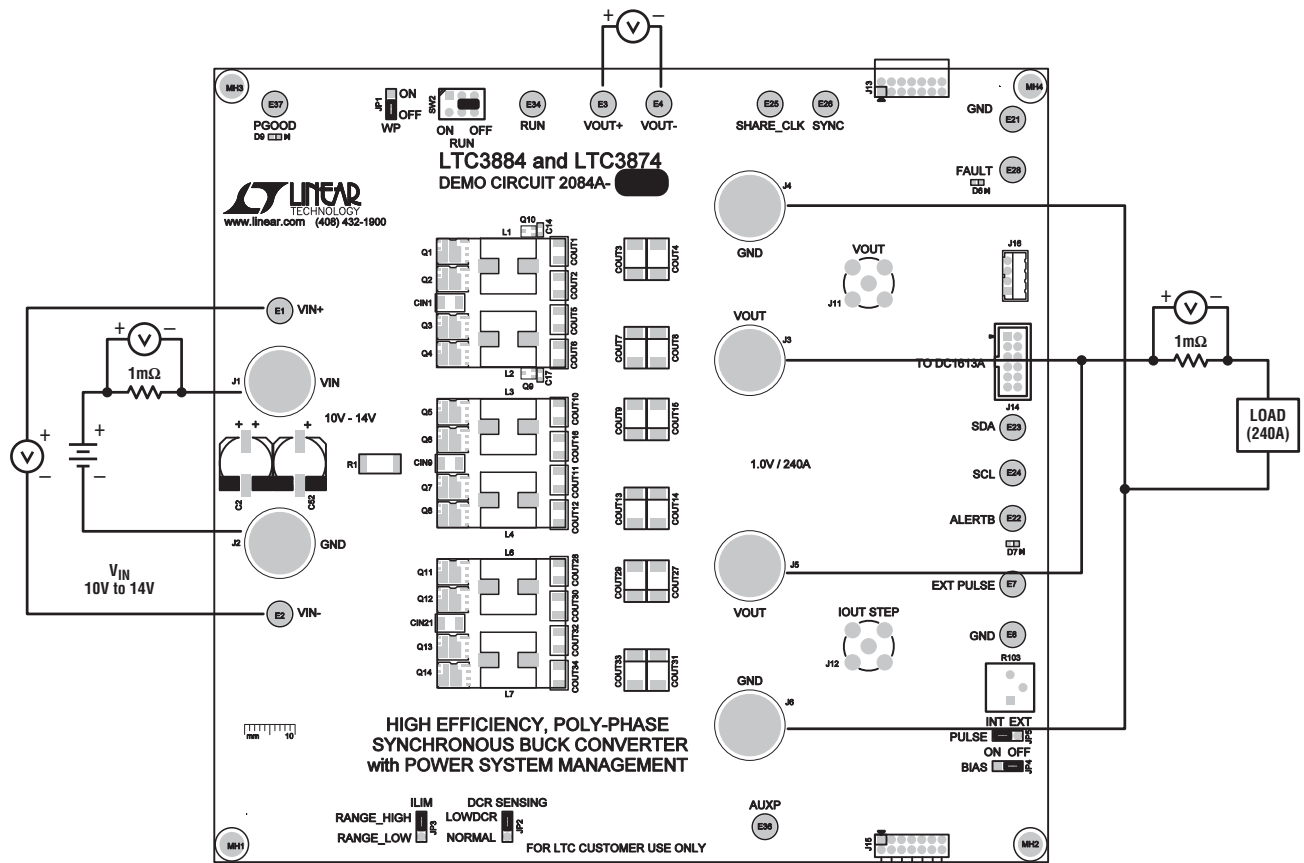

Figure 1. Proper Measurement Equipment Setup
Demonstration circuit 2084A is easy to set up to evaluate the performance of the LTC3884. Refer to Figure 1 for the proper measurement equipment setup and follow the procedure below.
2. Connect the output loads between V_{OUT} and GND (Initial load: no load). Refer to Figure 1.